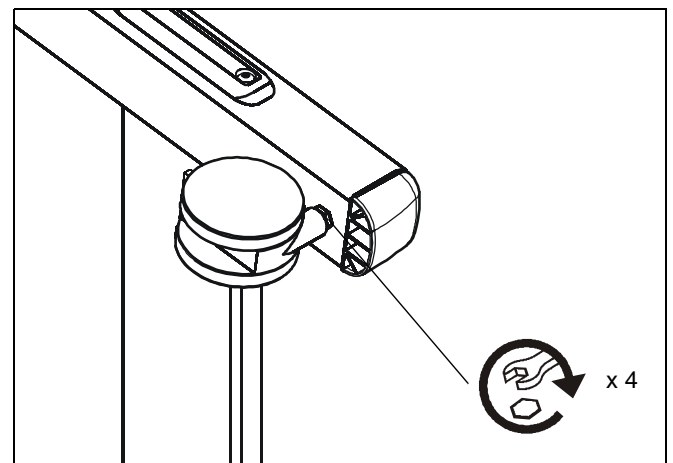

Figure 20
3. Check and tighten the hex nuts on the casters occasionally. (See Figure 20) These should be checked especially after use on uneven ground.